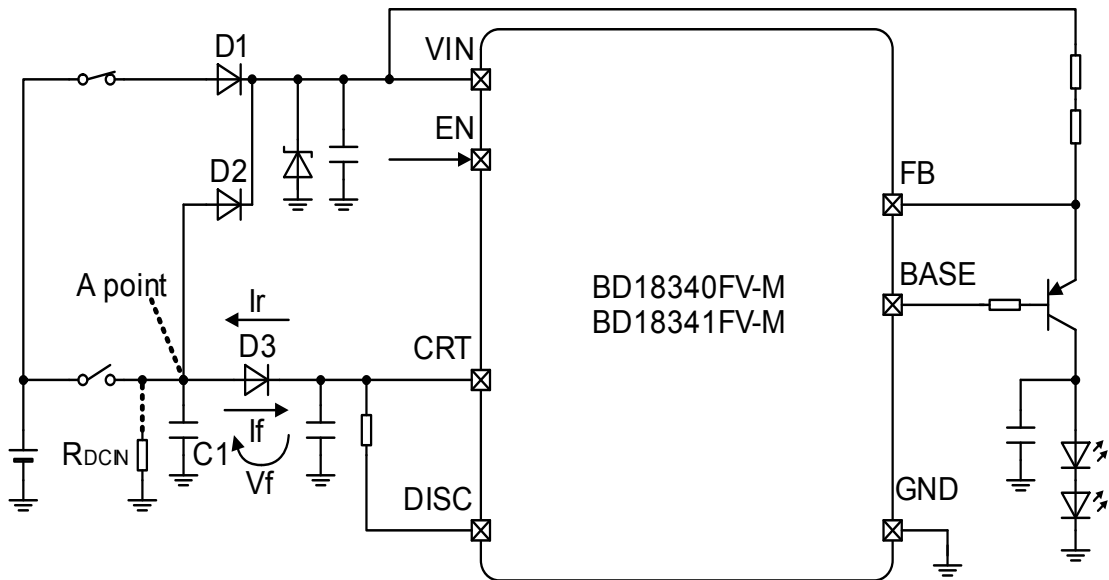

Figure 17. how reverse protection diode affects the CRT terminal rise/fall time
- ① During the PWM dimming operation mode, the A-point on Figure.17 becomes Hi-Z
- ② Reverse current  $I_r$  of D2 and D3 goes to the A-point